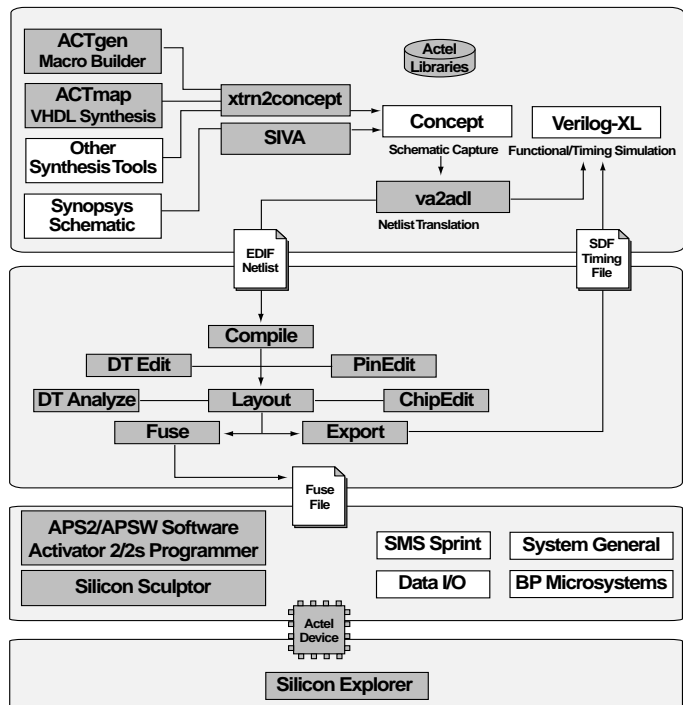

Figure 2-1. Concept/Verilog-XL Design Flow
Figure 2-1 shows the schematic-based design flow for an Actel FPGA using Designer software and Concept schematic capture software.¹
1. Actel-specific utilities/tools are denoted by the grey boxes in Figure 2-1.